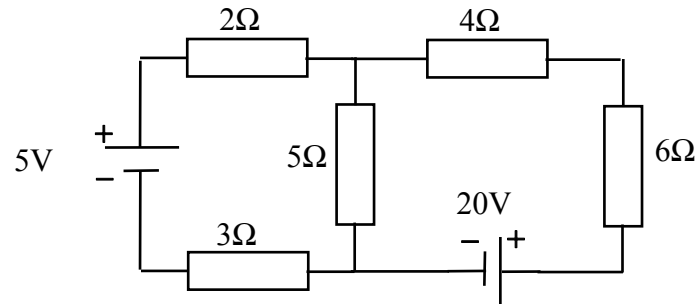
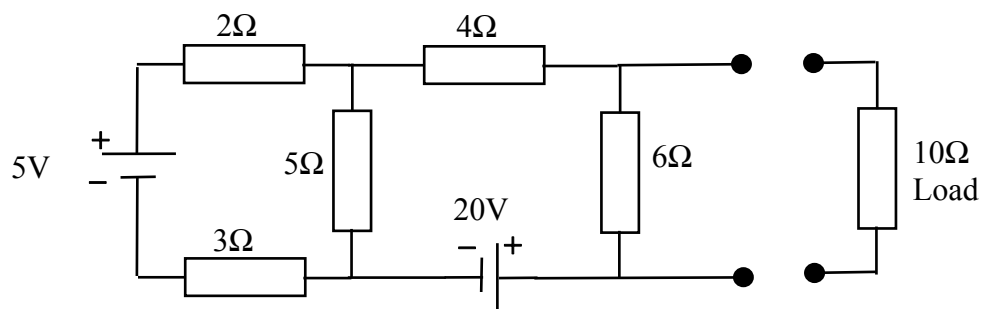

Figure 4.1
Figure 4.3
- (ii) Calculate the power dissipated in the heating element at the final temperature, and hence calculate the system efficiency at this temperature. (2)
- (i) Calculate the secondary voltage, the current in the primary winding and the power dissipated if a resistive load of 25Ω is connected across the secondary. (3)
- (ii) Calculate the current in the primary winding and the power dissipated if the load across the secondary now comprises a resistance of 30Ω in series with an inductance of 100mH. (3)
- (iii) For the case described in part (ii) above, what would be the input power factor and the required VA rating of the transformer? (1)
- (iv) If the maximum core flux of the transformer is 4mWb calculate the actual number of turns on the primary winding. (1)
- (v) If the transformer were to be operated in a country where the supply frequency is 60Hz, what is the maximum permissible supply voltage without the maximum core flux of 4mWb being exceeded? (1)
- a. For the network shown in Figure 4.1, find the value of the current through the 5Ω resistance using the method of superposition. Indicate the direction of the current. (6)
- c. The network of Figure 4.1 is to be used as a source for a load resistor of 10Ω , as shown in Figure 4.3. Derive the Thevenin equivalent circuit for the source and hence calculate the power dissipated in the load resistor. (6)
- d. Calculate the Norton equivalent circuit for the source network shown in Figure 4.3 (i.e. not including the load resistor). (3)